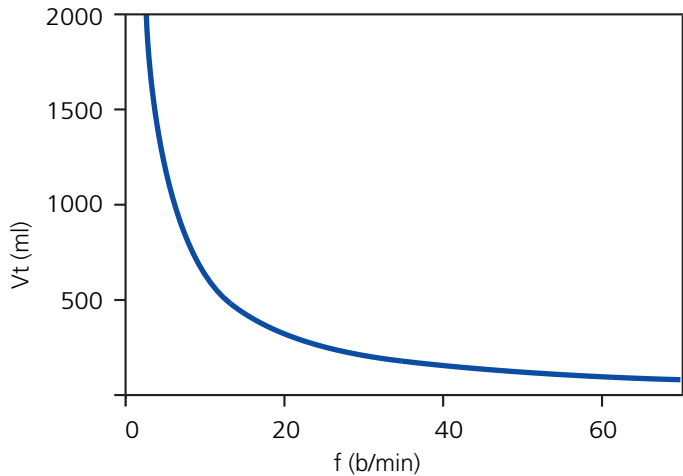

Figure C-7. MinVol = 7 l/min. All possible combinations of VT and f which result in a minute ventilation of 7 l/min lie on the bold line.
For example, with a %MinVol = 100 and a Body Wt = 70 kg, a target MinVol of 7 l/min is calculated. This target can be achieved with a number of combinations of tidal volume (VT) and respiratory rate (f). This is shown in Figure C-7, where all possible combinations of VT and f lie on the bold line, the target minute volume curve.
Not all combinations of VT and f shown in Figure C-7 are safe for the patient. The high tidal volumes would overdistend the lungs and the small tidal volumes may not produce alveolar ventilation at all. Another risk lies in inadequate respiratory rates. High rates could lead to dynamic hyperinflation or breath stacking and thus inadvertent PEEP. Low rates may lead to hypoventilation and apnea. It is therefore necessary to limit the number of possible combinations of VT and f.